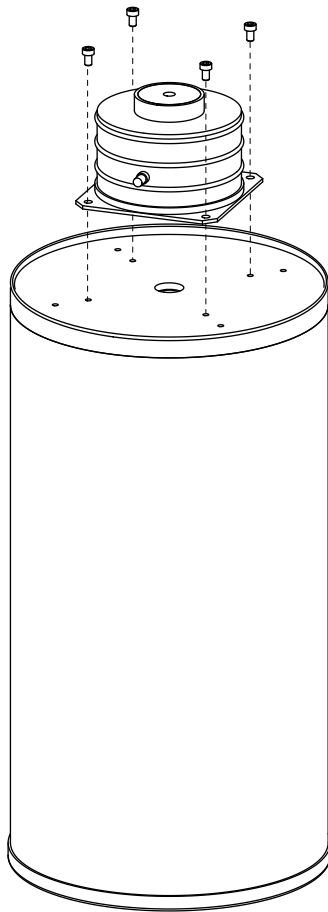

Fig. 2.2 Fitting the passive mounts
- 3) Using the bolts supplied (four bolts for each mount) fit the passive mounts to the top plates as shown in Fig. 2.2.